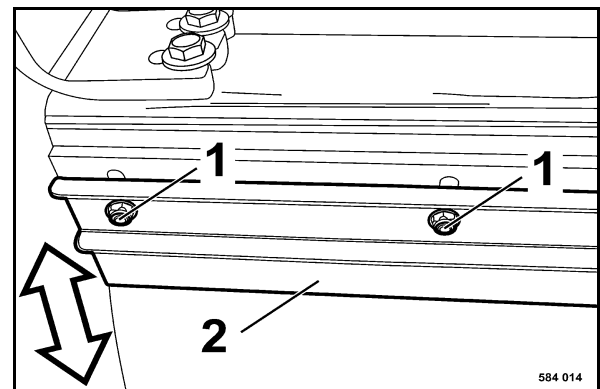

Fig. 189
- In order to adjust the scrapers 2 (Fig. 189), slacken the fastening screws (1) in the slots and push the scraper towards the drum to contact.